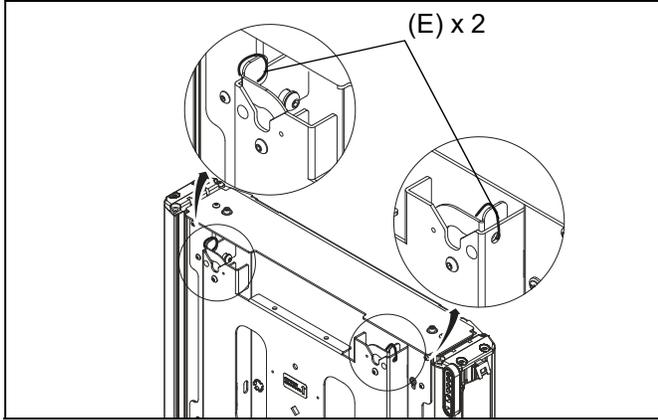

Figure 24
IMPORTANT ! : Manufacturer recommends using cable ties (E) to secure the latching flags in closed position on both sides if padlock is not being used. (See Figure 24)